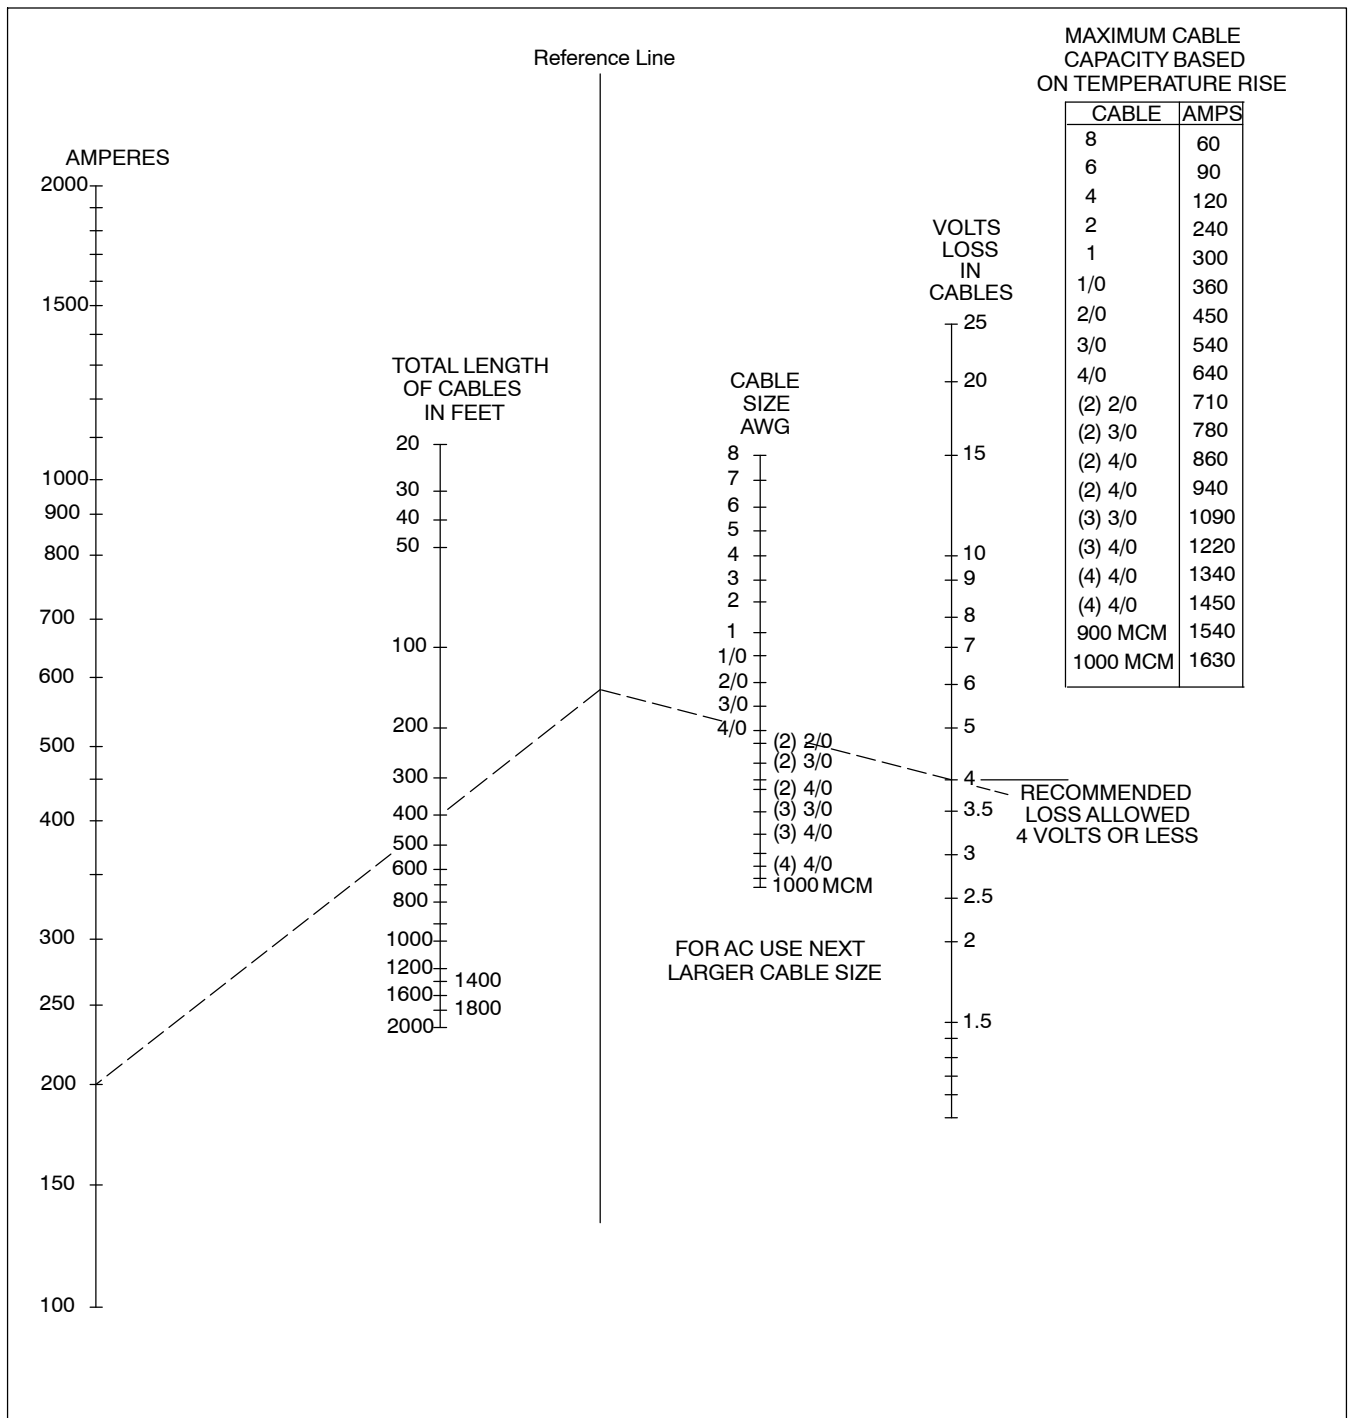

Figure 3-1. Chart For Computing Weld Cable Size
6. The amperage being used and total length of cable must be considered when selecting cable sizes. Use Table 3-1 to select weld cable size. Use Figure 3-1 to compute weld cable size.